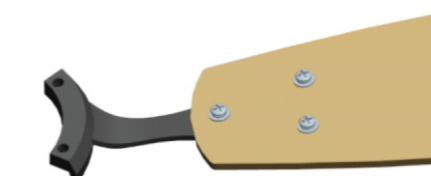

Fig 1.2
- 1.2 Fig 1.2 is the schematic diagram of the installed fan blade arms.